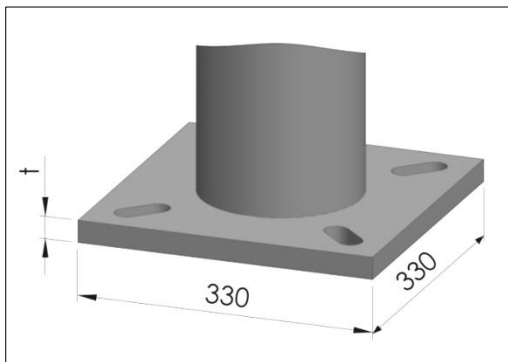

Figure 3: Flange plate - outside dimensions
Poles with a flange plate come with a square flange plate 330 x 330 mm, see Figure 3. Four slot holes allow a connection with a variable screw distance **A** between 200 and 250 mm, see Figure 3. The maximum diameter of the anchor is M24. The thickness of the flange plate **t** (see Figure 3) is designed and calculated for different wind loads and area surfaces. Calculation is based on European standard EN 40-5 and EN 1991-1-4 (NA). More information on influences by wind can be found in the European standard EN 1991-1-4 or on www.eurocode.at.